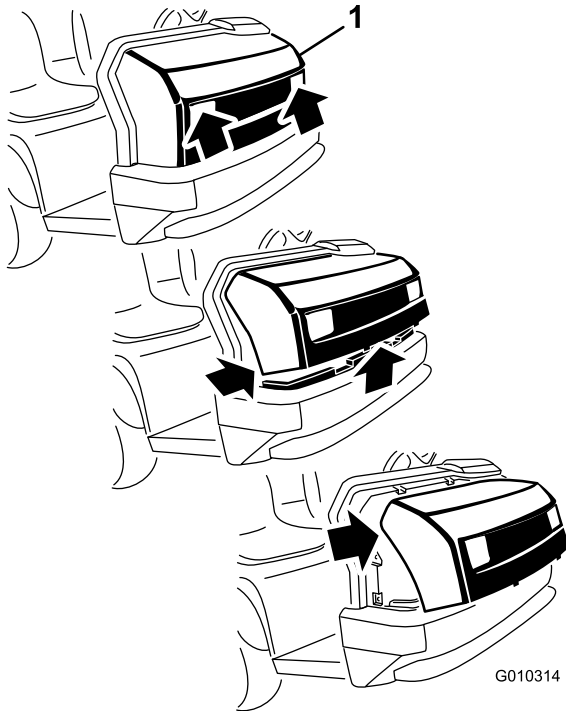

Figure 5
1. While grasping the hood in the headlight openings, lift up on the hood to release the lower mounting tabs from the frame slots (Figure 5).
2. Pivot the bottom of the hood upward until the top mounting tabs can be pulled from the frame slots (Figure 5).
3. Pivot the top of hood forward and unplug the wire connectors from the headlights (Figure 5).